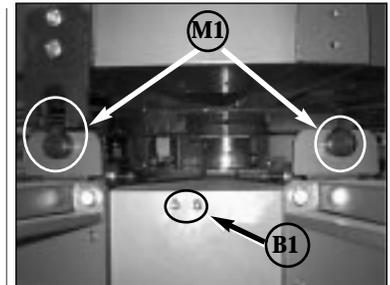

Fig. 9
- B1. Using white lithium grease, grease the zerk fittings located on the index ring. (See Fig.9 on page 73)
M1. Clean inside “U” of index registration forks, and outer face of index registration cam follower, bearings and forks, then apply white Lithium grease. (See Fig.9)